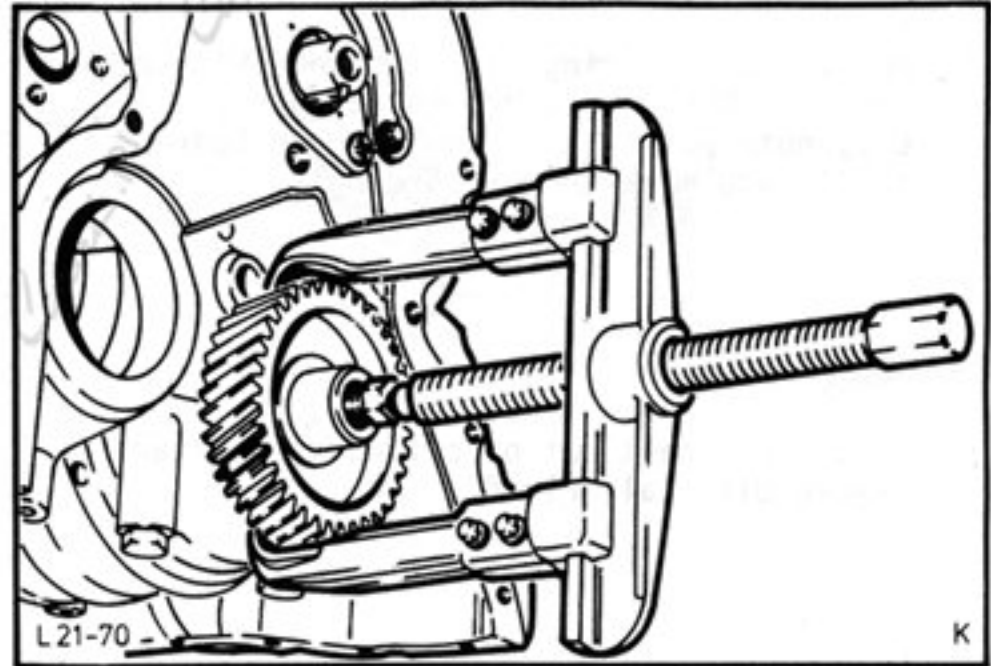

Fig.37. Remove crankshaft gear.
25. Pull off crankshaft gear using standard puller Fig.37.